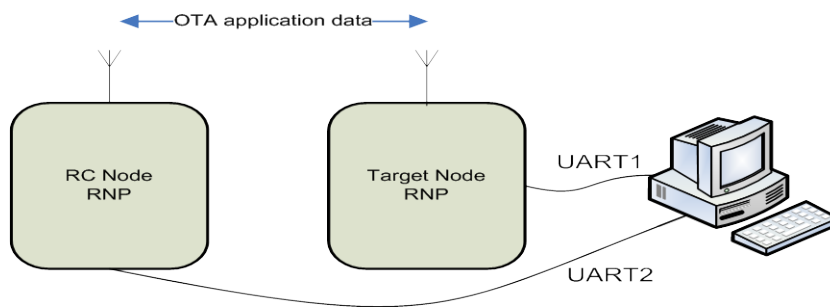

Figure 1. SimpleConsole Application configured as a RC Node
The Target Emulator (TE) application included with the RemoTI release can be used with the RemoTI kit target board to enable discovery/pairing and display the messages sent from the SimpleConsole application configured as an RC node. See Figure 1. The TE is connected to UART1 and the SimpleConsole application is connected to UART2. Note that the RemoTI kit only includes one target board and you need two target boards to test this setup. The SmartRF05EB+CC253xEM can also be configured as a RNP.